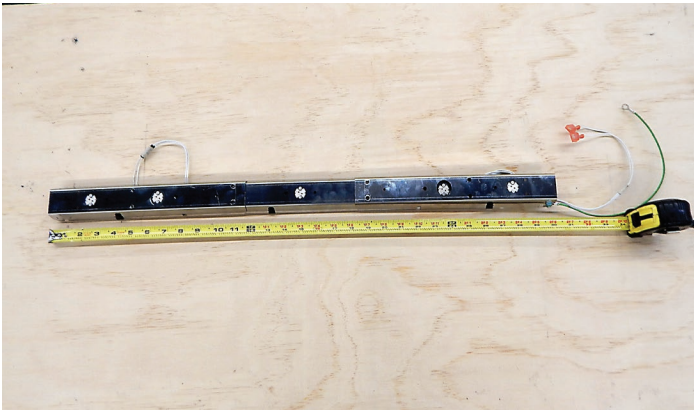

Figure 5
- To install the LK9 Light kit, first lay the Light kit assembly out on the floor or table end to end as shown by **Figure 5**. For installation in the DVLL36BP fireplace, the three light brackets will overlap to have an overall length of 30" long when assembled. For installation in the DVLL48BP fireplace, the three light bracket ends overlap, and will have an overall length of 42" long when assembled.